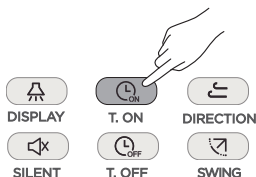

Figure 3.14
- ① Press  (see Figure 3.14), and the remote controller will display "Timer On", and "0.0h Later On" will appear in the timer area. Adjust the Timer On settings now;